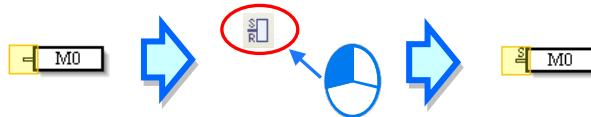

Figure 12-19 Setting/Resetting a pin
- (2) If the users select the pin of an output node, and then click  or  on the PMSoft toolbar or on the context menu which will appear after the users right-click the pin, the pin will be set. Please see figure 12-19. If the users select a pin which is set, and then click , the pin will be reset. If the users select a pin which is reset, and then click , the pin will not be reset.